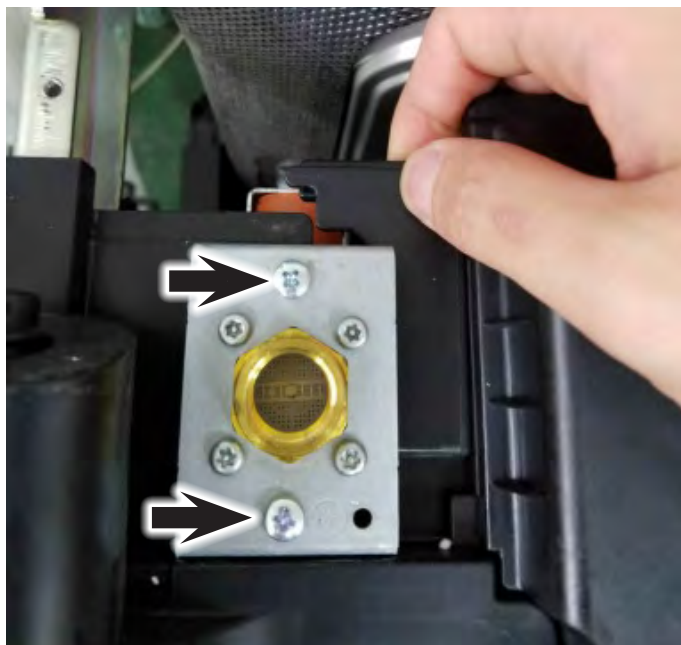

Figure 2
4. Remove the 2 screws that hold the water valve to the front brace (see Figure 2).